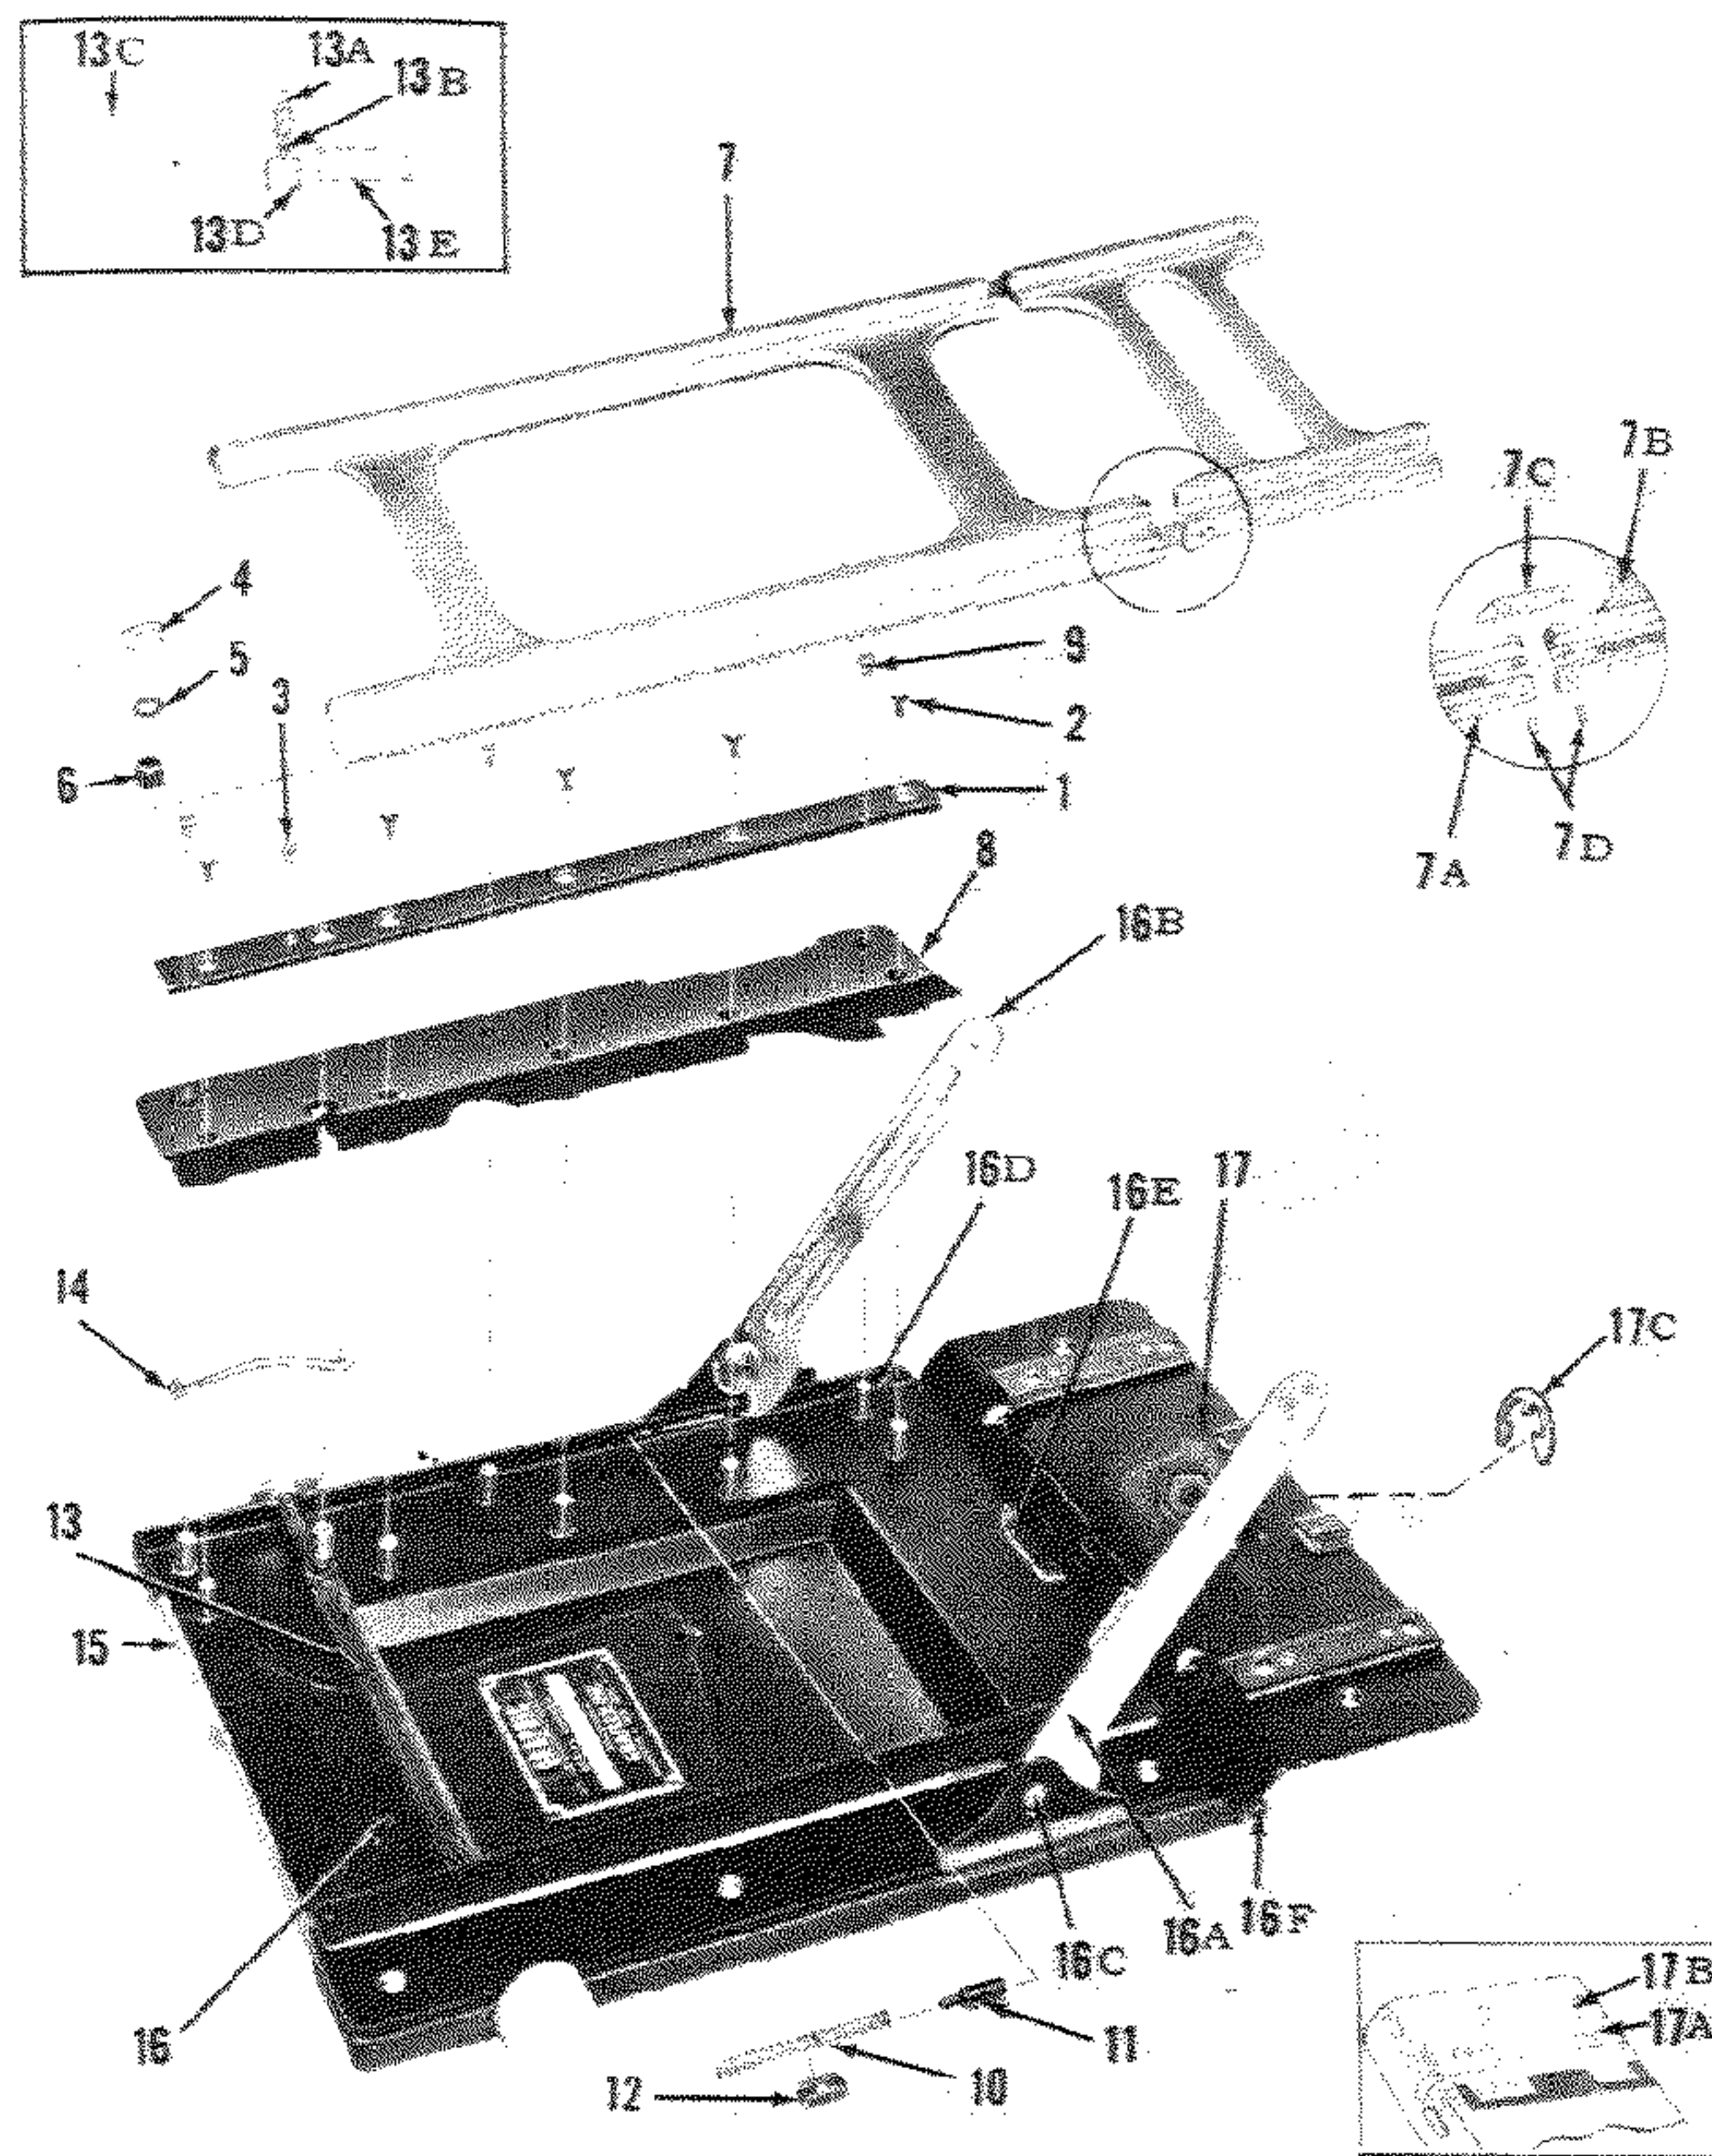
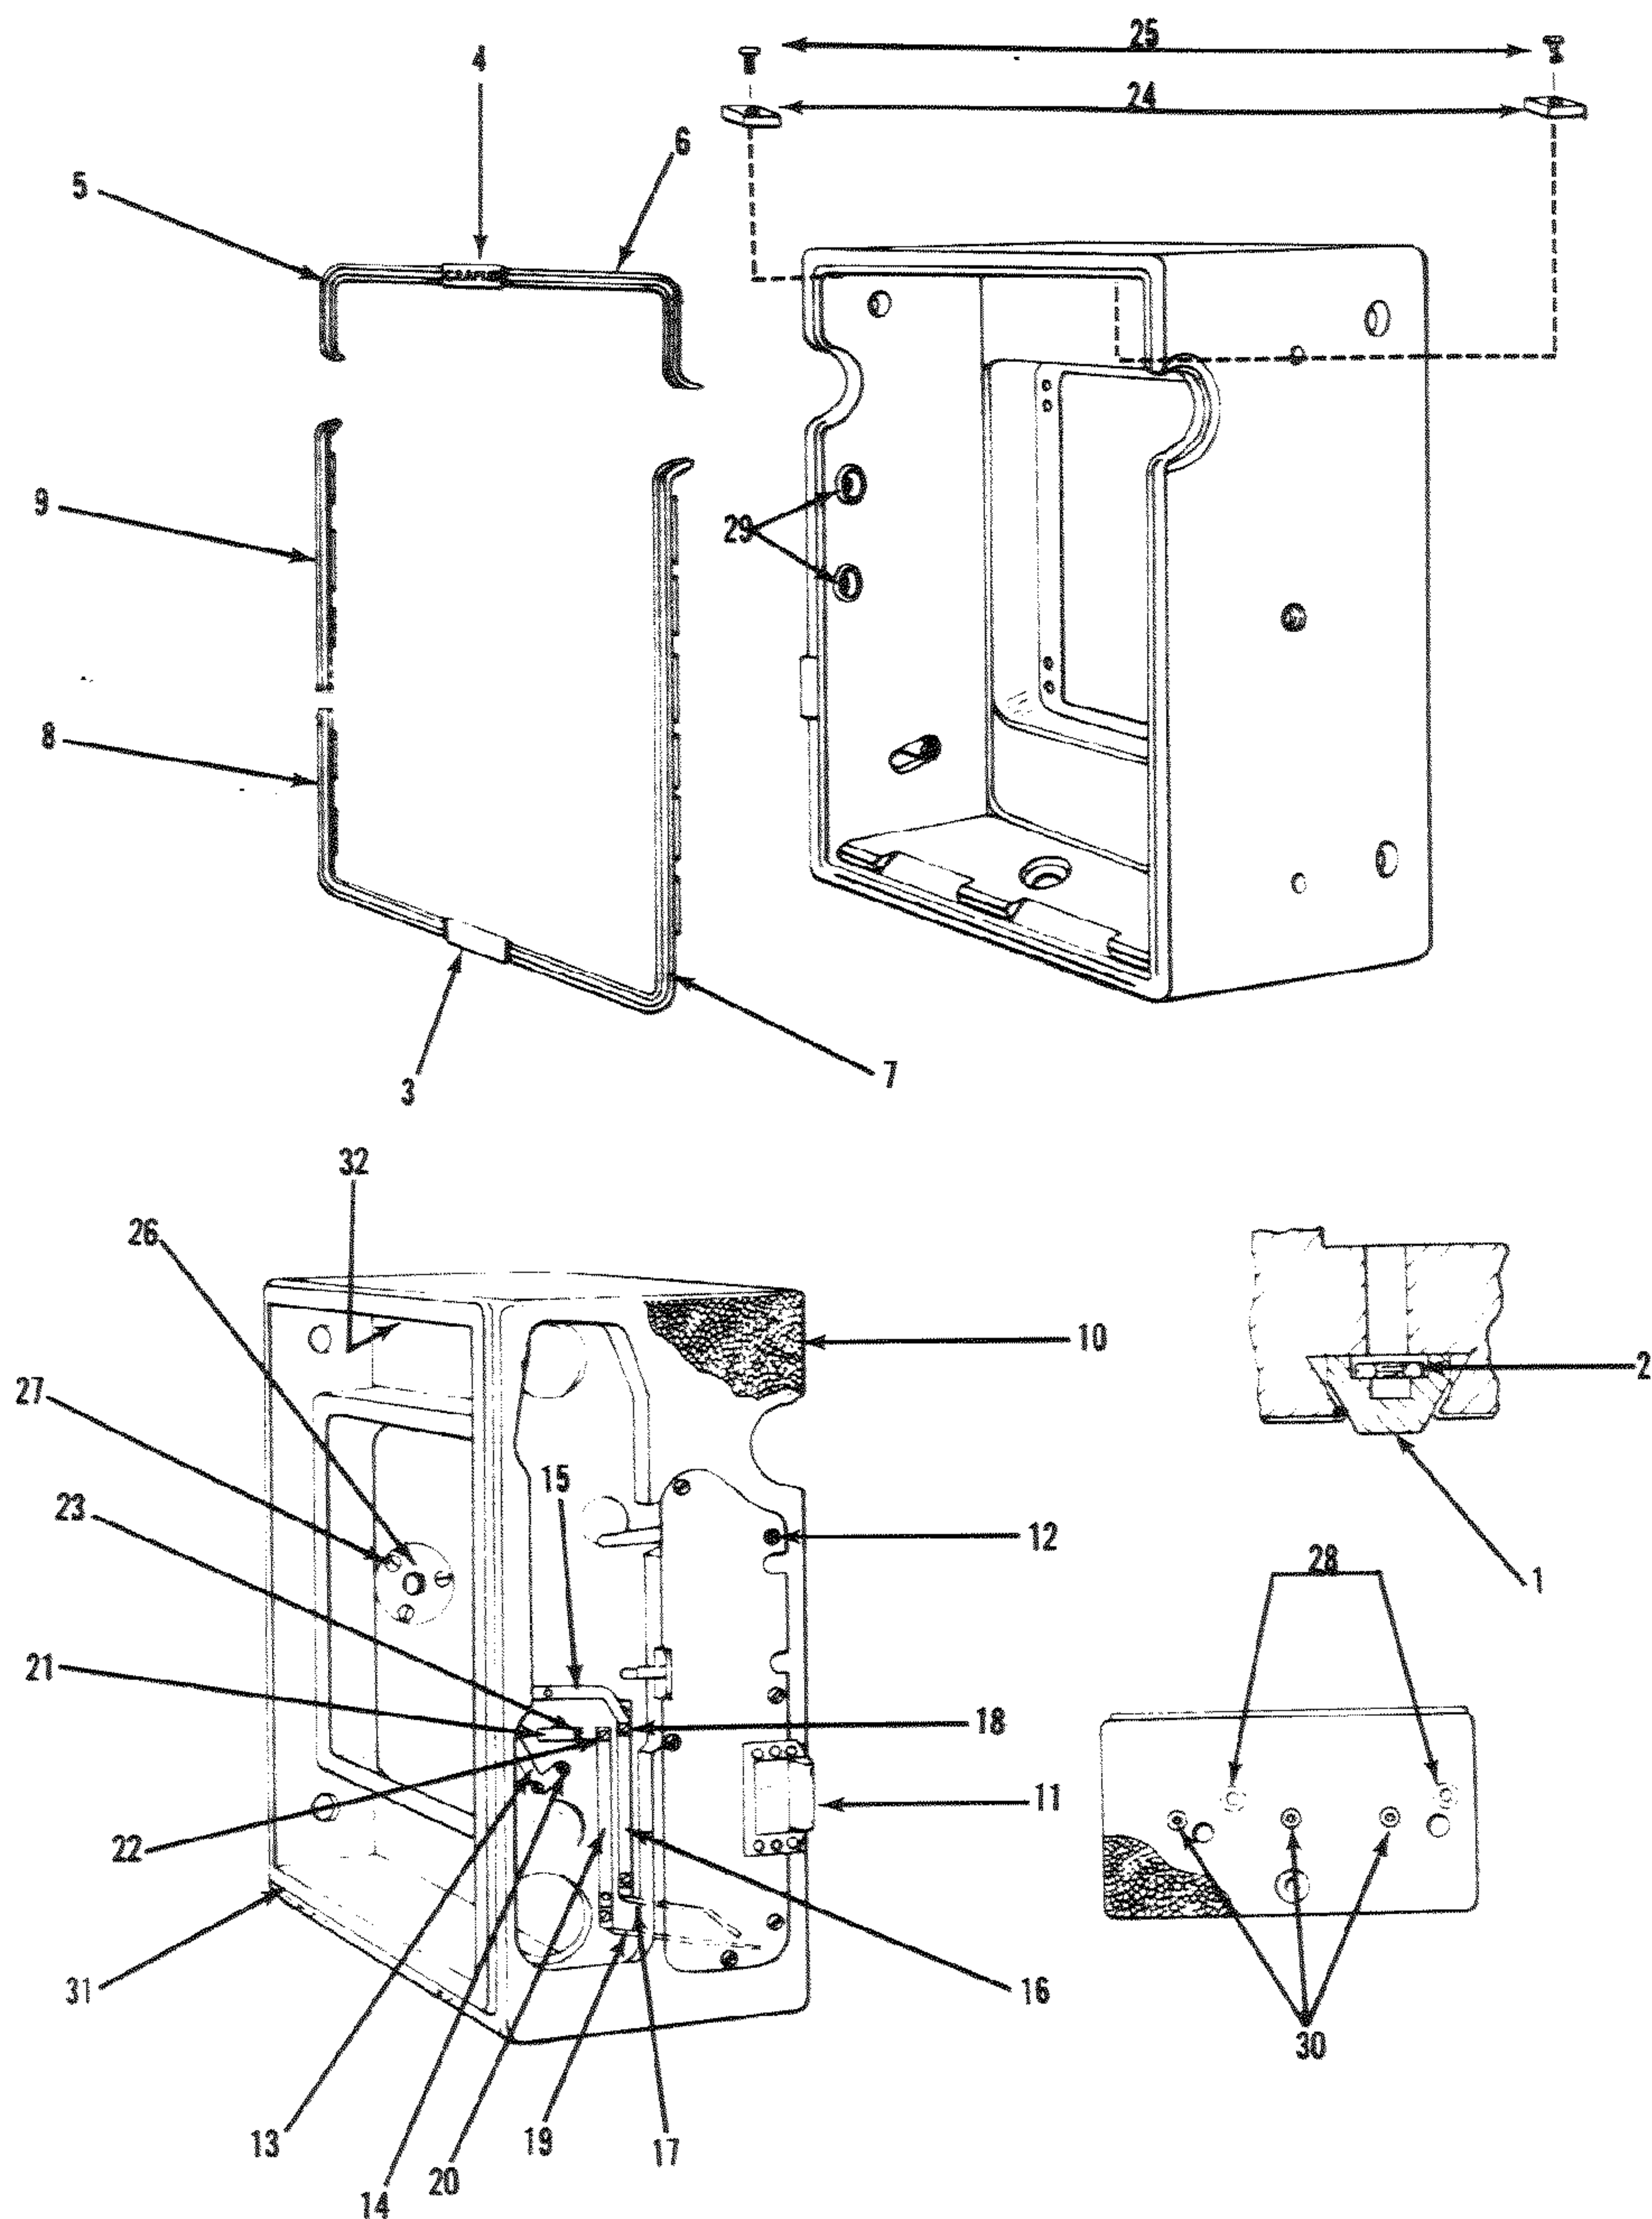

Figure 20. Bed Complete
Figure 21. BODY COMPLETE
Key to Figure 20.
c) From the bed hinge, remove two wood screws (38). Remove four yoke guide case screws (39) that are screwed into machine nuts (2, figure 21) located in the case feet (1).
- Remove the bed section guide (1, figure 20) by removing machine screws (2).
- Rack the yoke assembly (7) forward until the rear case yoke section is free of the hinge guides. Lift the yoke assembly (7) from the bed.
- Remove block screws (9, figure 20) from the bed block (8). When the bed block is lifted from its position care should be taken so that the bed brace spring (10) does not throw and lose the bed brace plunger (11).
- Swing the yoke lock lever (4, figure 20) clockwise so that the special fillister head screw (3) can be removed. Unscrew the yoke lock lever (4). Remove the flat washer (5) and the yoke lock sleeve (6).
- Lift the pinion assembly (13) from the bed. Do not lose the focusing pinion springs (14) at each side.
a) The case section guide (17A, figure 20) should have the sliding grooves wiped with a film of the above lubricant.
b) Assemble the case section guide (17A) to the hinge assembly (17) by using two dowel pins (17B) in each guide.
a) Position the focusing pinion assembly (13) in the bed with the yoke lock post (13D) on the right hand side. Position the focusing pinion spring (14) at the extreme inside end of the pinion.
Pinion assembly (13, figure 20) should be lubricated by wiping the small diameter of the shaft at each end with a reasonable amount being applied to the helical gear teeth.
The yoke assembly (7, figure 20) should have its guide edges wiped with lubricant and a reasonable amount applied to the gear teeth. Roll the yoke assembly (7) over the pinion assembly (13) to distribute the lubricant evenly and wipe off all excess.
a) To assemble the bed block (8, figure 20) insert the stud of bed brace plunger (11) into the bed brace spring into space provided on the under side of the bed block and hold in position by use of the spring retaining clip (12) that clips around the spring and over the rib on the bottom of the block. Check the position of the focusing pinion spring (14) so that it will fit in the block cavity that is provided. Lower the block into position over the guide and block screw bushings (16D). Be sure that the edge of the leather is tucked in between the block and the bed. Assemble three bed block screws (9).
a) Assemble the right bed section guide (1, figure 20) and attach with five machine screws (2).
b) Insert the yoke lock sleeve (6) and assemble the flat washer (5), if required. This flat washer is a spacer washer that may or may not be needed, depending on the position of the yoke lock lever when it is assembled.
c) Assemble the yoke lock lever (4) and tighten. Note the position and if the lever does not tighten in convenient position it should be removed and the thread started in a different position; it has a triple
d) After the yoke lock lever position has been found to be satisfactory, assemble the special fillister head screw (3).
b) Position the left bed section guide and assemble five machine screws (2, figure 20).
c) With the bed section guide screw (2) loosened on both sides, slide the yoke back so that the case section will partially engage in the case section guide (17A). This will center the front section in relation to the case section. Draw both bed section guides (1) together evenly with the fingers and tighten the guide screws (2) on both sides.
a) Place the bed in position in the camera case and reassemble four yoke guide case screws (39, figure 3) that are screwed into the machine nut (2, figure 21) located in the foot (1). Assemble two wood screws (38, figure 3).
b) Engage each bed brace (16A and 16B, figure 20) with its proper bed brace plate (34 and 35, figure 3). Allow the bed brace arm to slide freely in the slot and assemble the mounting screw in the old mounting hole.
c) Next check the top surface of the yoke assembly (7, figure 20). If the top surfaces of the yoke guide are not level, the front standard will not slide smoothly on the yoke. If necessary, shim the case section guide as follows:
1. Remove the release slide plate (11, figure 21).
2. Remove the right focusing knob escutcheon (51, figure 3) that is held by escutcheon pin (52). Pry up the right moulding (9, figure 21) and the right edge of the lower right moulding (8).
6. Remove six wood screws (12, figure 21) that secure the body release plate assembly (11), and remove the plate assembly.
2. Inspect the short and long switch contacts (17 and 19, figure 21). These contacts complete the focal plane synchronization circuit and are closed by pressure action of the long lever inside the plate that has the insulated spring terminal bushing. If this insulated bushing has become worn so that the lever might make contact with the short switch contact (17) the body release plate assembly (11) must be replaced.
1. Position the body release plate assembly (11, figure 21) and assemble six wood screws (12).
1. To remove the side tripod socket (26, figure 21) it is first necessary to remove the right bed brace plate (35, figure 3) as described in paragraph V.B.2. Remove the three flat head wood screws (27 figure 21) securing the tripod socket.
Key to figure 21.